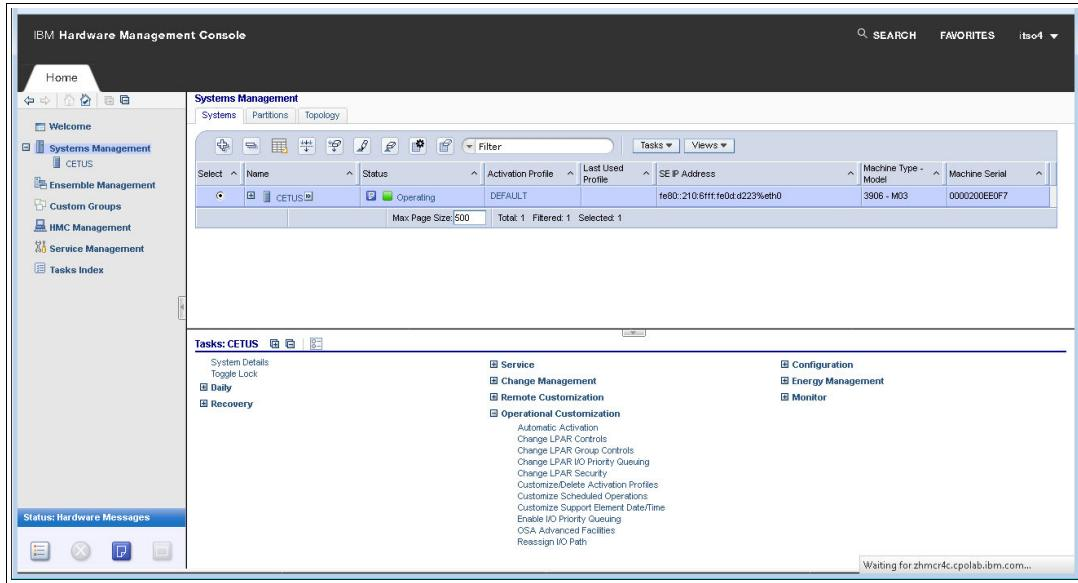

Figure 5-17 Customize Activation Profiles
- On the Tasks window, click **Operational Customization** to expand it, and select **Customize/Delete Activation Profiles** (Figure 5-17).